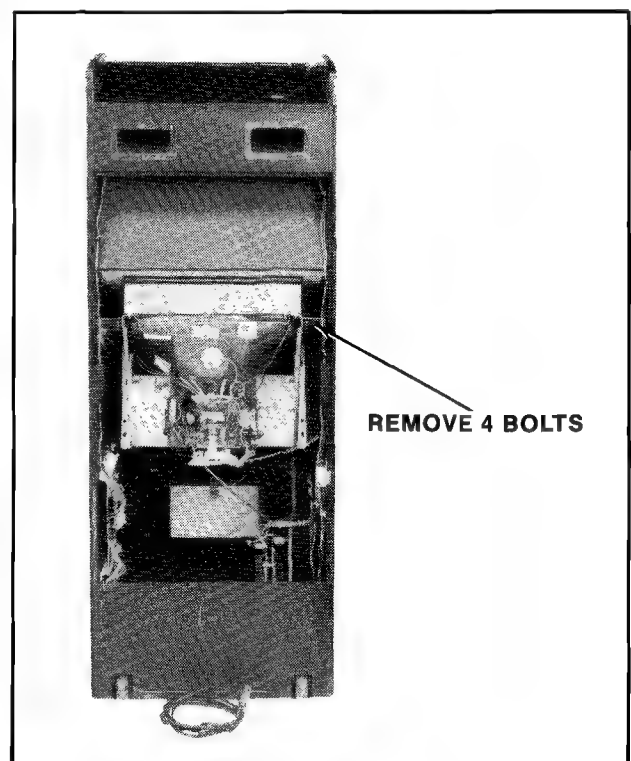

Figure 15 Replacing monitor — Upright game
1. UPRIGHT MODEL: See Figure 15.
The monitor mounting channels slide on top of and against two metal guides mounted to the cabinet's right and left sides. The monitor is removed by sliding it out the back of the cabinet. See Figure 15.